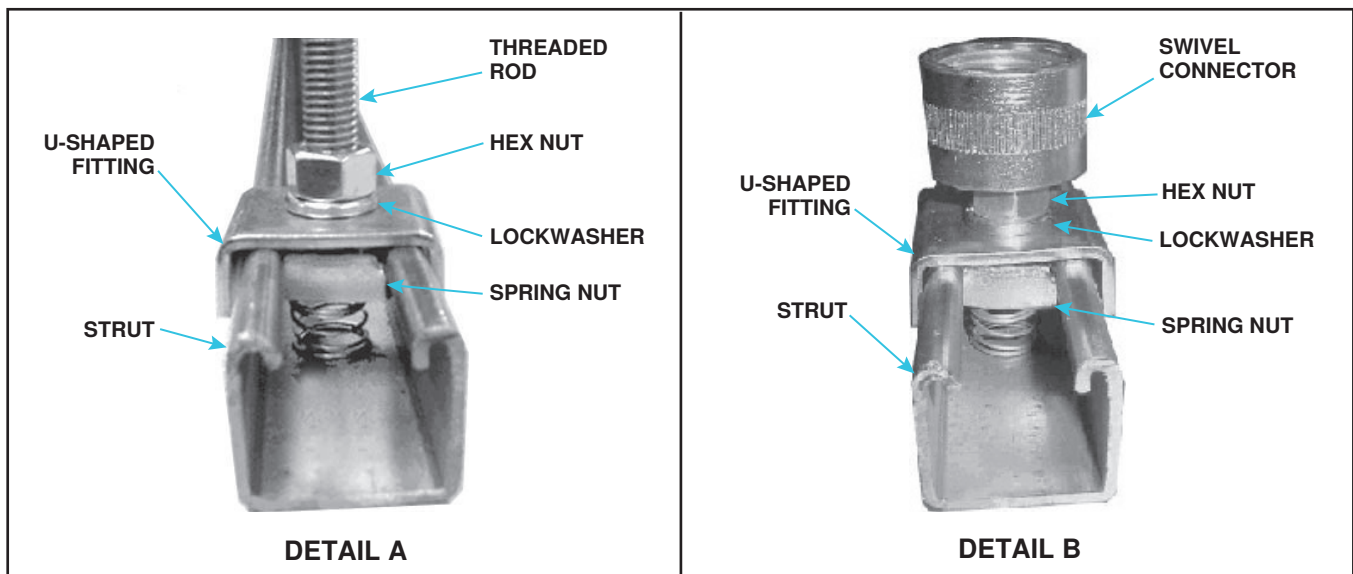

Figure 7. Suspension-Mounting
1. To suspend the heater using threaded rods (see Figure 7, DETAIL A):
2. To suspend the heater from 1-inch pipe using swivel connectors (option CK10, see Figure 7, DETAIL B):